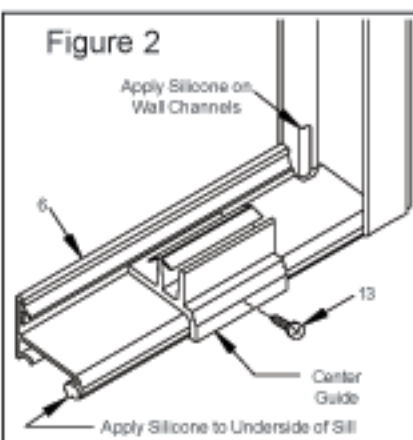

Figure 2
1. Set wall jamb (1) in place on wall, centering bottom of jamb on rim of tub. Hold plumb and mark walls for screw holes.
2. Remove and drill 3/16" diameter holes in walls (use a carbide tipped drill bit for tile walls). Insert plastic wall anchors (2) into holes. Silicone where the wall meets the rim of the tub to seal the bottom of jamb. Set jamb in place and secure to wall with #8 x 1 1/2" screws (3). Secure Bottom Bumper (4a) on showerhead / Inside side with bottom wall jamb screw (3).
3. Cut bottom sill (6) 7/16" smaller than slider opening. Run a bead of silicone full length to the underside of sill (6) and apply silicone to inside of jamb where jamb meets tub. On inside of jamb, run a 1/4" bead of silicon 1 1/4" up the outside leg of wall jamb (See Figure 2). Set sill in place and press firmly to rim of tub. Wipe off any excess silicone before curing.